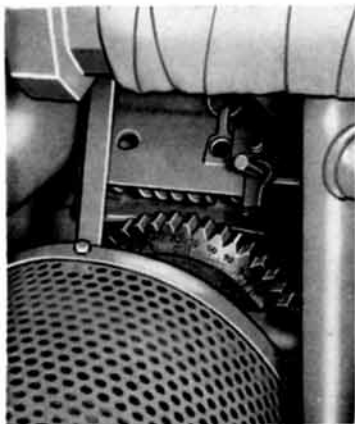

Fig. 29
15. Diesel engine turning gear must be disengaged and locked. This is located at the air compressor end of the engine and mounted directly above the engine crankshaft extension. See Fig. 29.